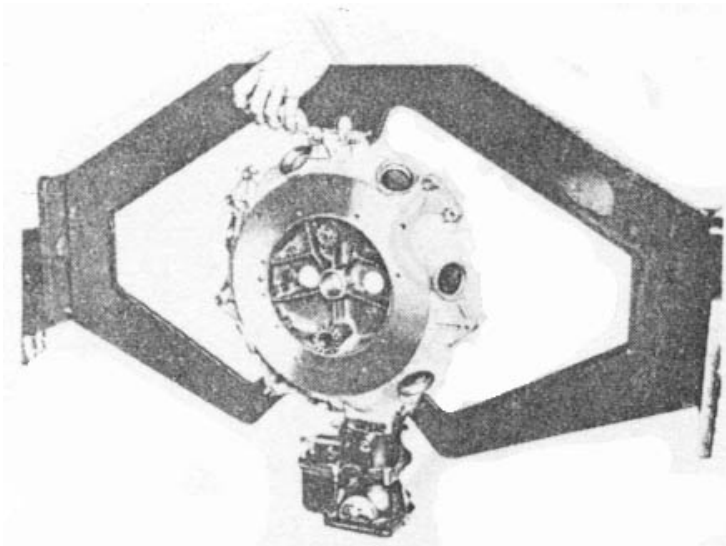

Figure 11 - Attaching Or Removing Induction Housing From Assembly Plate Stand
(1) Loosen and remove all nuts and washers from bolts that attach induction housing to assembly stand plate. See Figure 11.